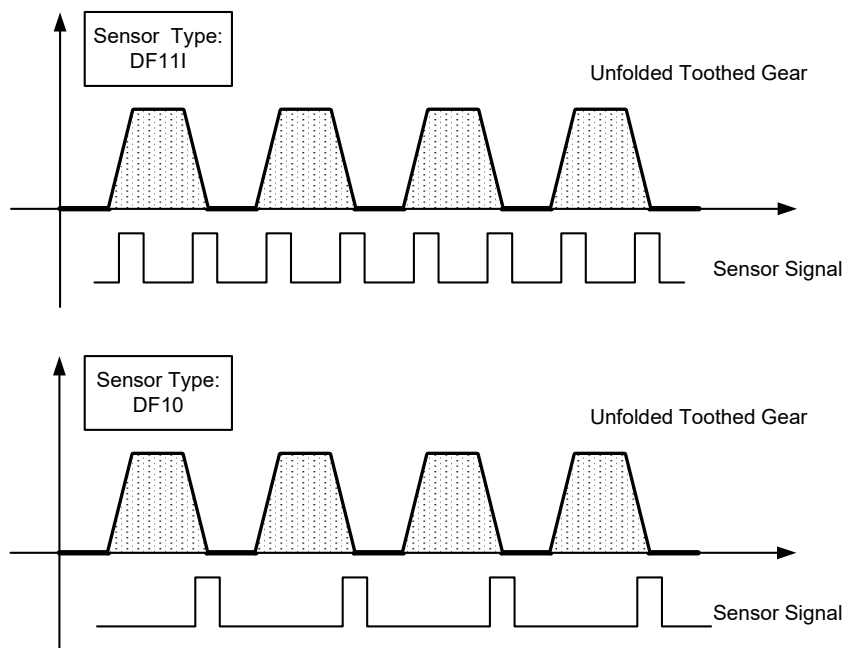

Fig. 7-5 Sensor Signal of a DF11I and a DF10 Speed Sensor
- with speed sensors of type DF11I, a PWM impulse is generated each time the edge of a tooth is detected (see Fig. 7-5)
- with speed sensors of type DF10, a PWM impulse is only generated if the 'trailing edge' of a tooth is detected (see Fig. 7-5)